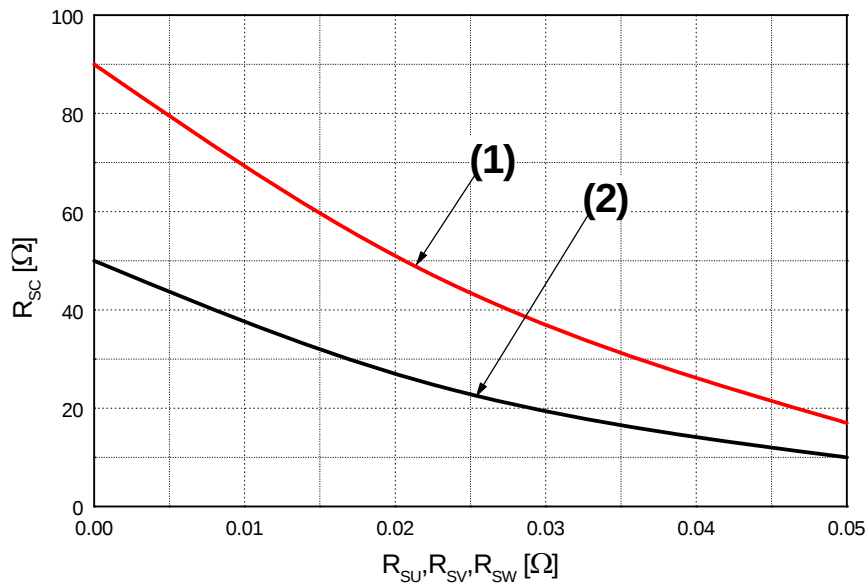

Fig. 7. R_{SC} Variation by change of Shunt Resistors (R_{SU}, R_{SV}, R_{SW}) for Short-Circuit Protection
5. Short-circuit current protection is functioning only at the low-sides. It would be recommended that the value of the external sensing resistor (R_{SC}) should be selected around 50 Ω in order to make the SC trip-level of about 45A at the shunt resistors (R_{SU}, R_{SV}, R_{SW}) of 0Ω. For the detailed information about the relationship between the external sensing resistor (R_{SC}) and the shunt resistors (R_{SU}, R_{SV}, R_{SW}), please see Fig. 7.